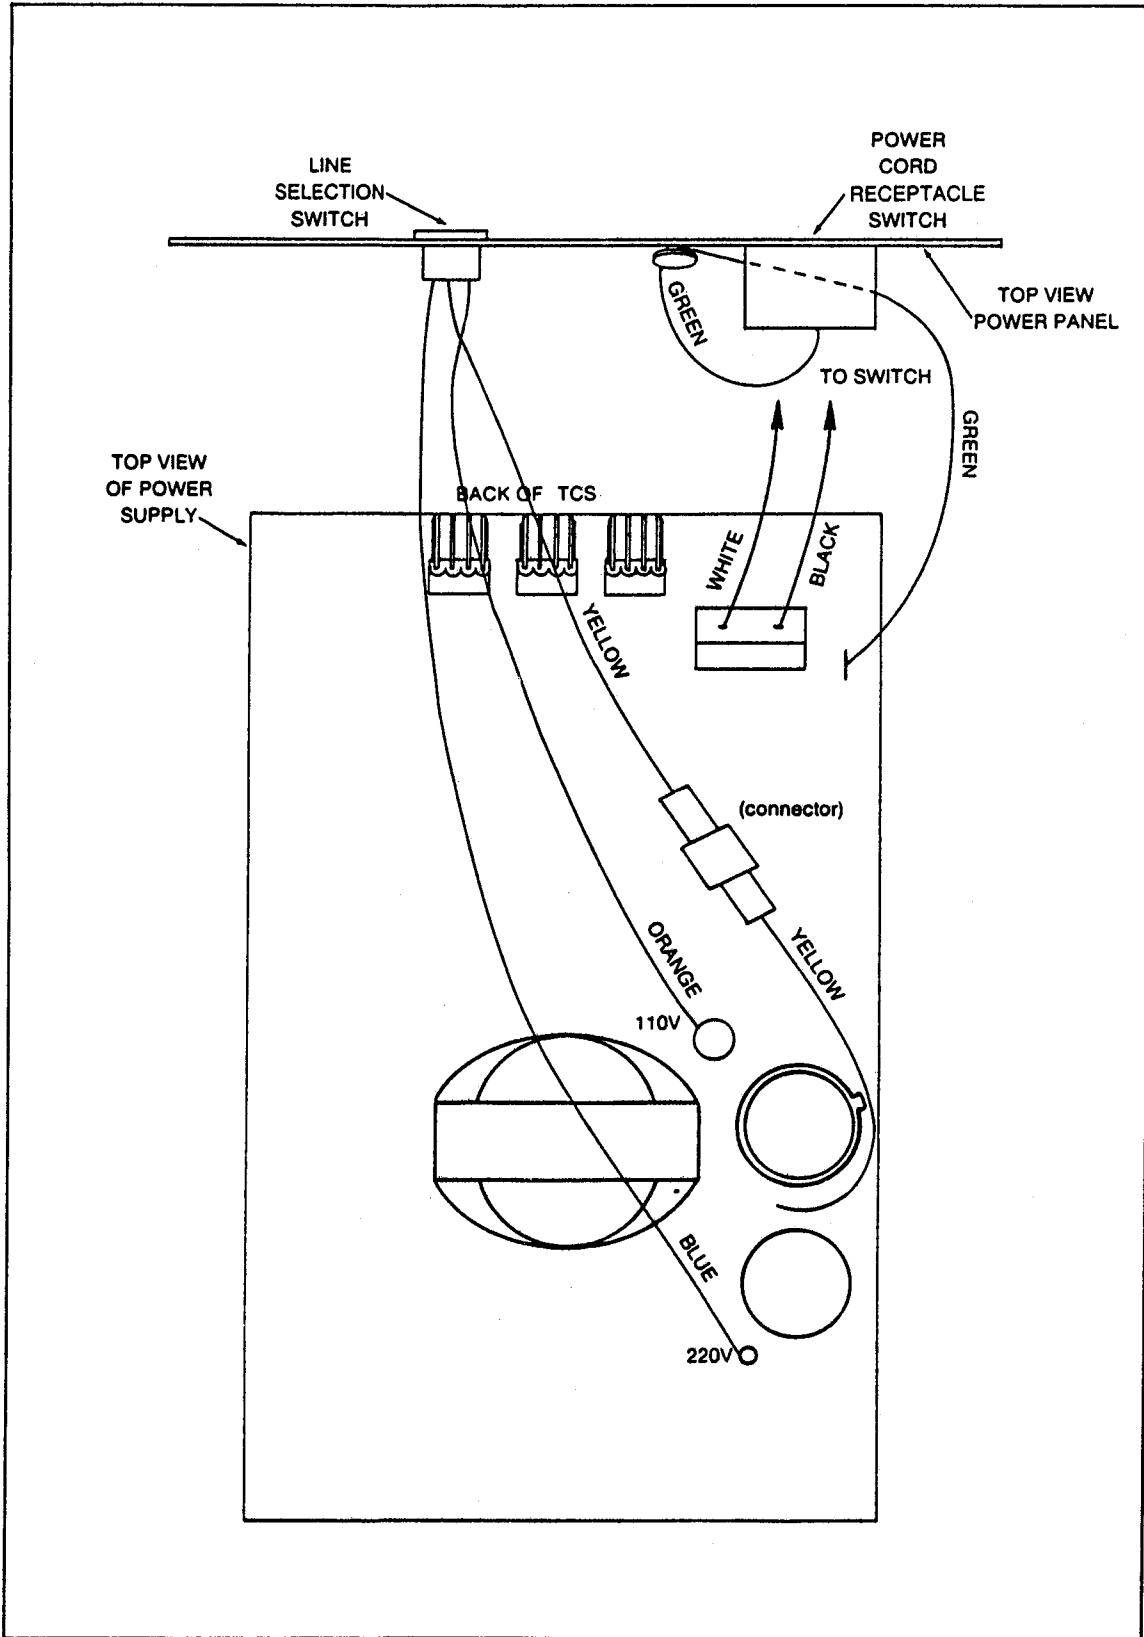

Figure 4-5. Power Supply Lead Connections
4. Disconnect the six wires that connect the power panel to the power supply. Refer to Figure 4-5 for wire locations.
6. Connect the power leads and ground. Refer to Figure 4-5 for wire connections.
2. Use a Phillips screwdriver to remove the two screws on the power panel. Disconnect the six wires that connect the power panel to the power supply. Refer to Figure 4-5 for wire locations. Remove the power panel.
9. Reconnect the six wires that connect the power panel to the power supply. Refer to Figure 4-5 for wire locations. Replace the power panel.
4. Disconnect the six wires that connect the power panel to the power supply. Refer to Figure 4-5 for wire locations. Lift off the power panel.
11. Reconnect the six wires that connect the power panel to the power supply. Refer to Figure 4-5 for wire locations. Reinstall the power panel by replacing the two screws.